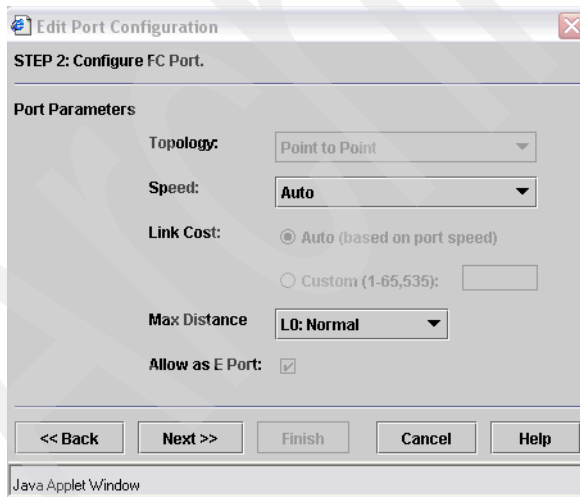

Figure 6-59 EX\_Port configuration details
- Figure 6-59 shows the next step of the configuration. Two configuration options are available. The FC link speed between the router and switch option provides the Auto, 1 Gbps, or 2 Gbps choices. We select **Auto**.